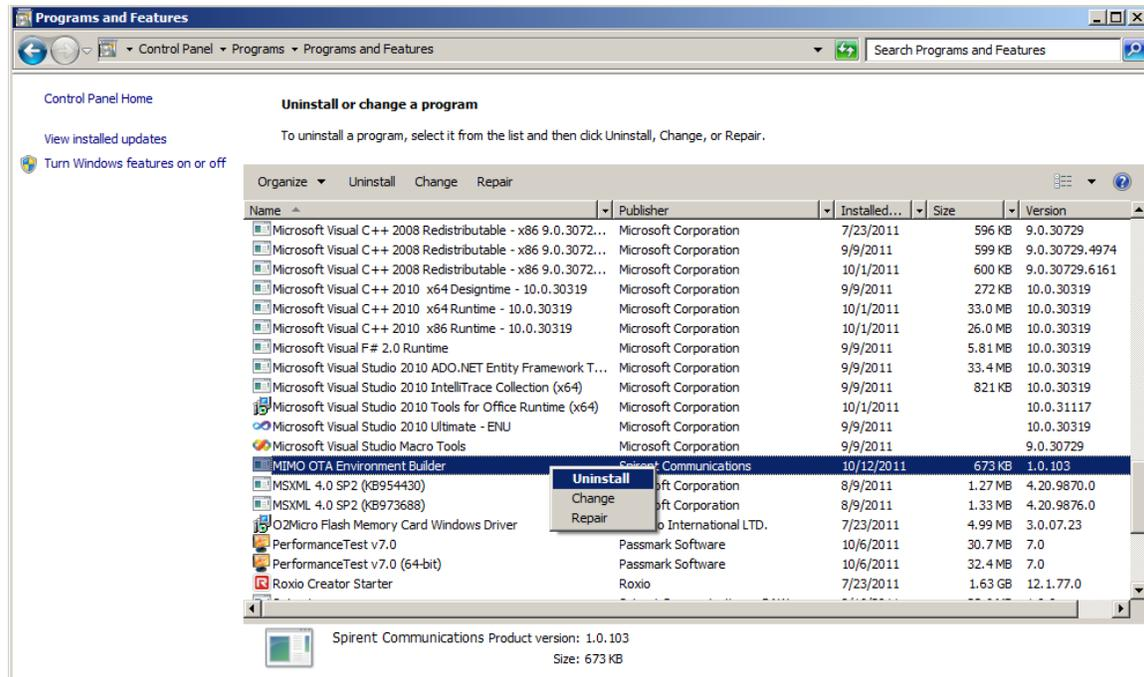

Figure 2-5: Uninstalling the Software
5. Right-click **MIMO OTA Environment Builder** and select **Uninstall** from the menu, as shown in Figure 2-5.